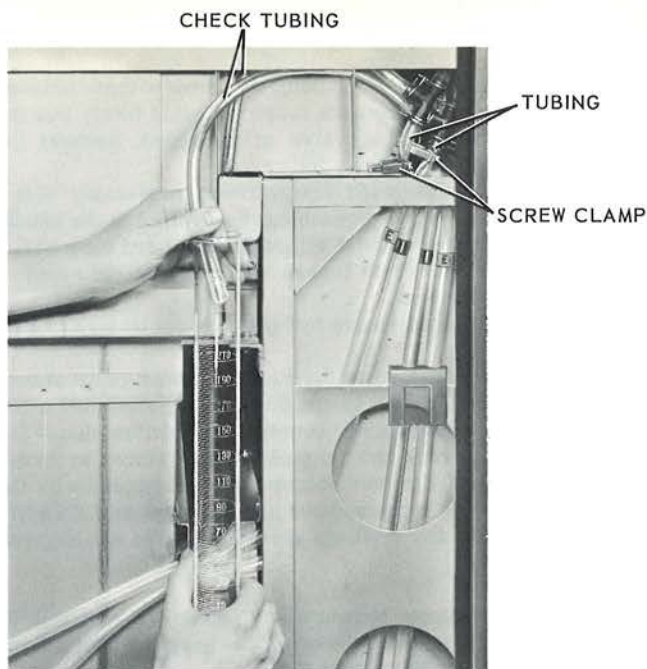

FIGURE 42 CHECKING REPLENISHMENT RATES
b. Using the SCREW CLAMPS, figure 42, close off the replenisher pump TUBING. Center the tubing in the clamps and tighten them firmly so that no solution will bypass them.